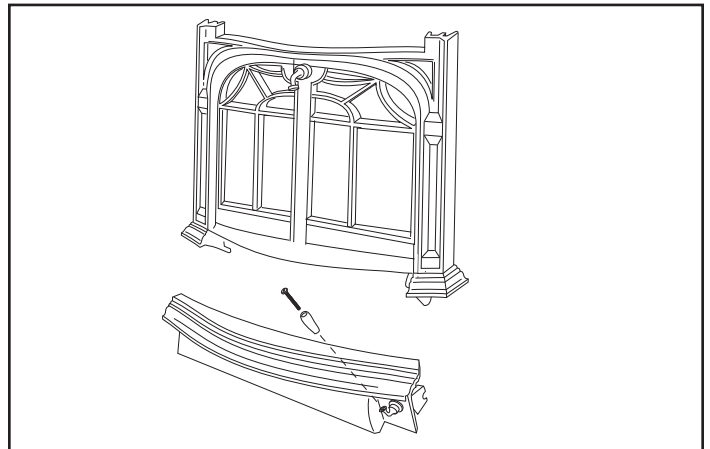

Figure 21 - Attach the handle to the control door.
3. Attach the wooden handle to the control door using the #8-32 x 2" screw from the parts bag. (Figure 21)